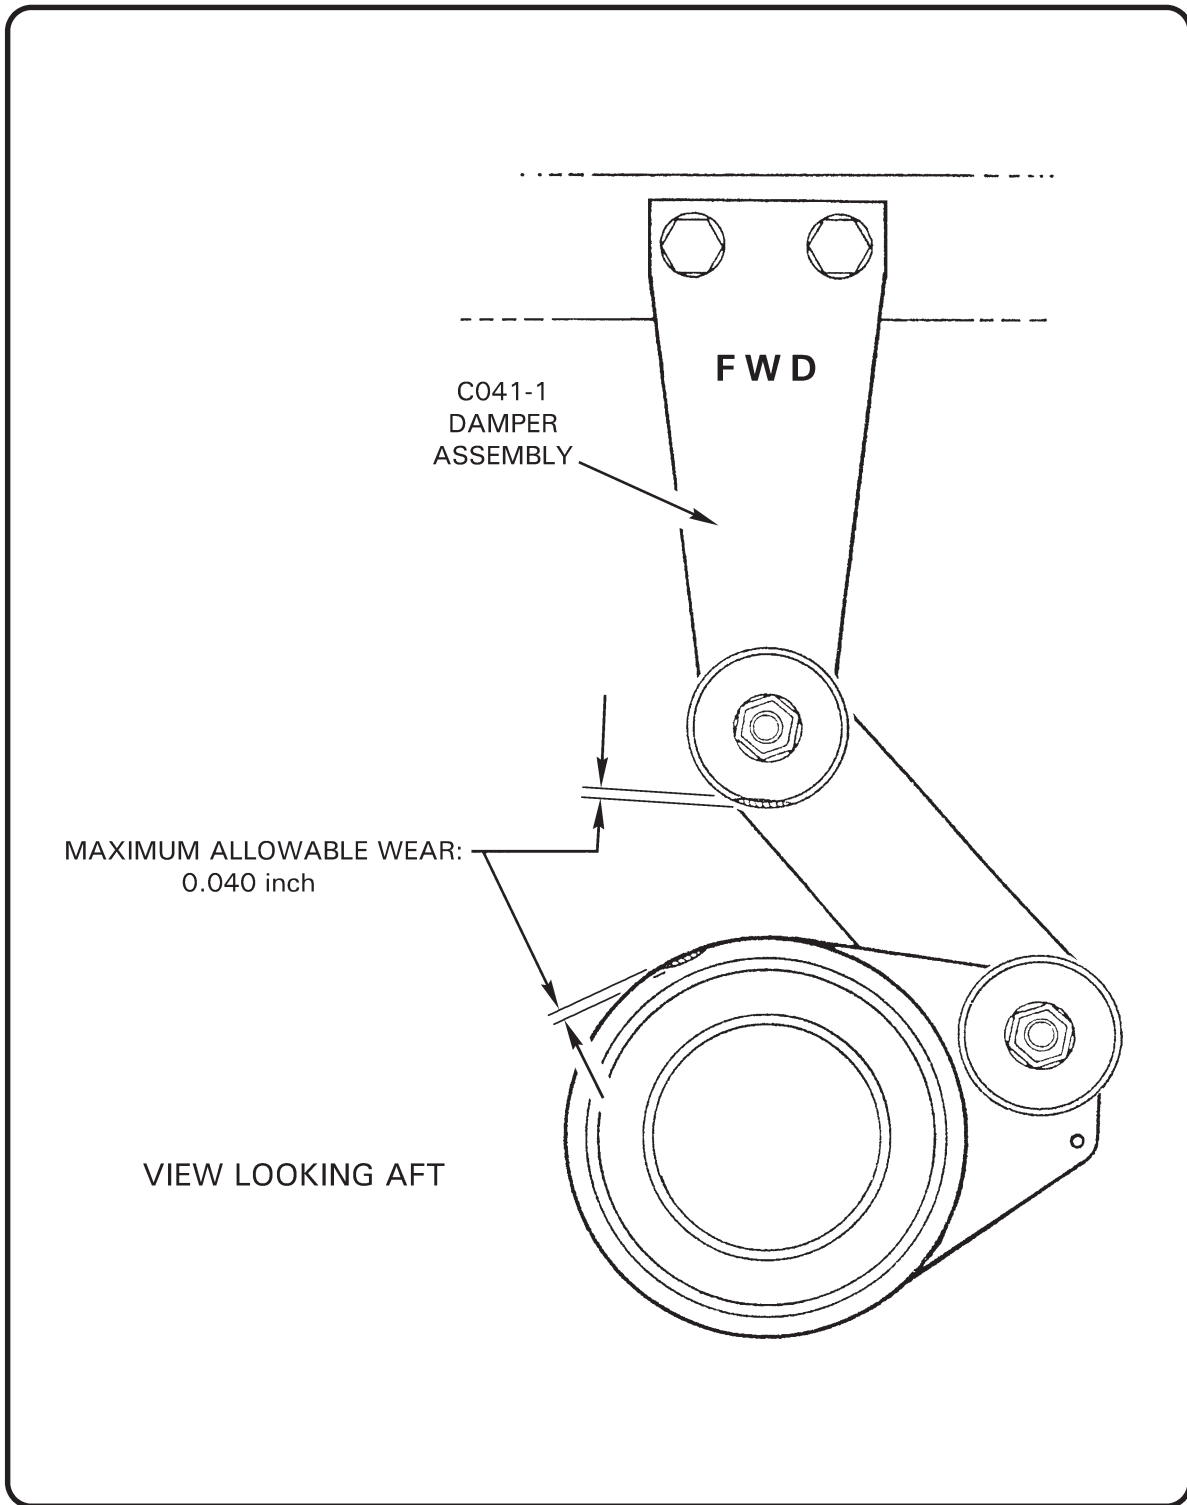

FIGURE 2-8 TAIL ROTOR DRIVE SHAFT DAMPER BEARING INSPECTION
**Tail Rotor Drive Shaft Damper Assembly:** Inspect condition. Inspect bearing and housing for cracks, corrosion, wear (see Figure 2-8), and bearing seal deterioration. Inspect arms and bearings for cleanliness, cracks, bends and corrosion. Inspect bearing's inner race-to-drive shaft torque stripe.